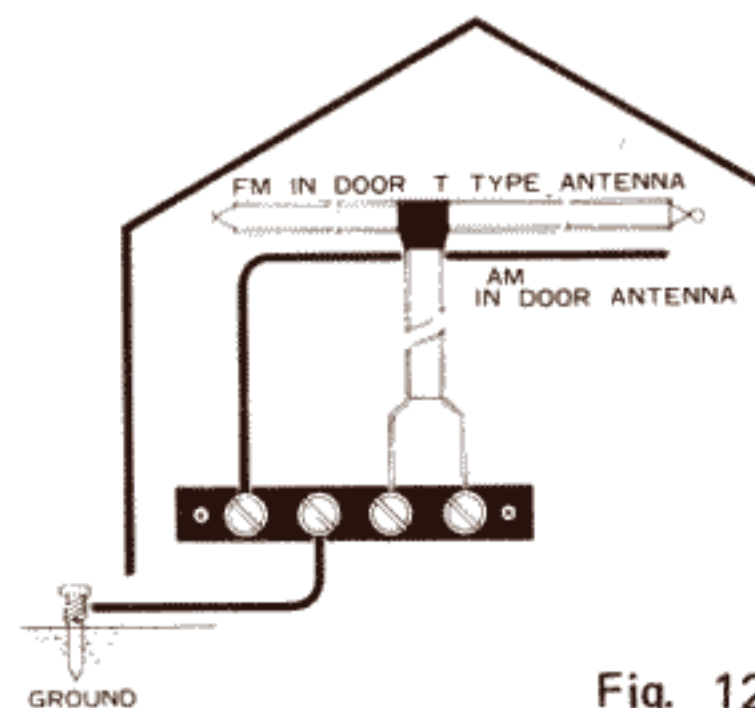

Fig. 12
- Use the accessory T-type indoor antenna when using Model SX-1500TD within a wooden building near the FM station. Connect the free end of the vertical section of the antenna to the FM antenna terminals (28) as shown in Fig. 12. Expand the horizontal section of the antenna, and determine its direction for good reception while actually receiving a broadcast program. Fix the horizontal section on a wall or other place in the determined direction. For the operating procedure, see "Reception of FM broadcast" on page 11.
- If good radio reception cannot be attained with the AM ferrite antenna (25), use the accessory AM lead wire antenna. Connect one end of the antenna to the AM antenna terminal (26), and expand the wire along a wall of the room. (See Fig. 12.)